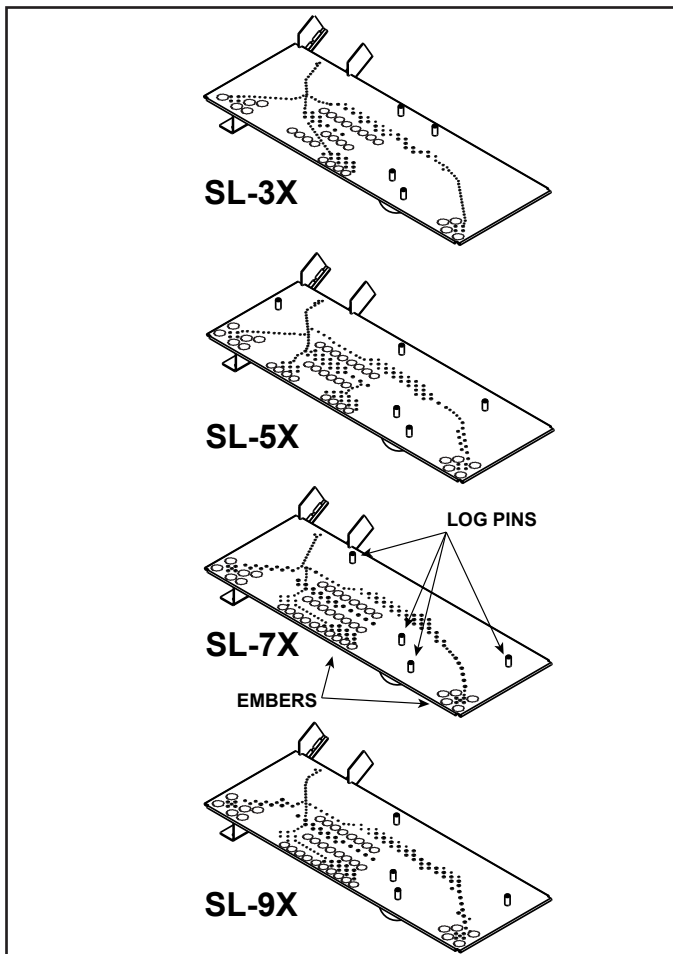
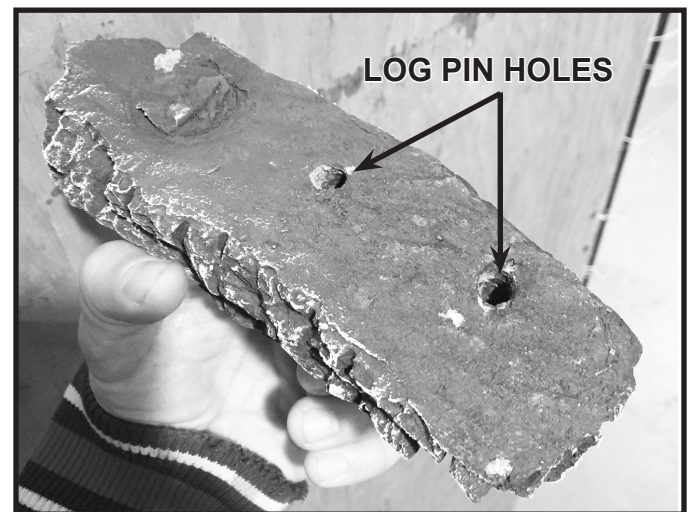

Figure 1. Log Pin and Glowing Ember Locations
Figure 2. Example of Log Pin Holes
The overall size and placement of the burner assembly within the firebox is very similar between all sizes. However, each burner top has different burner ports and log pin configurations. See Figure 1 for log pin locations.
- The rear left log, rear right log and small burner log utilize holes in the bottom side of the logs that correspond to the log pins on the burner. Reference Figure 1 and Figure 2.
3. Remove the Glowing Embers from packaging and install the ember material as shown in Figure 1. Care should be taken to avoid placing ember material directly over ports and to avoid using excessive amounts of ember material.